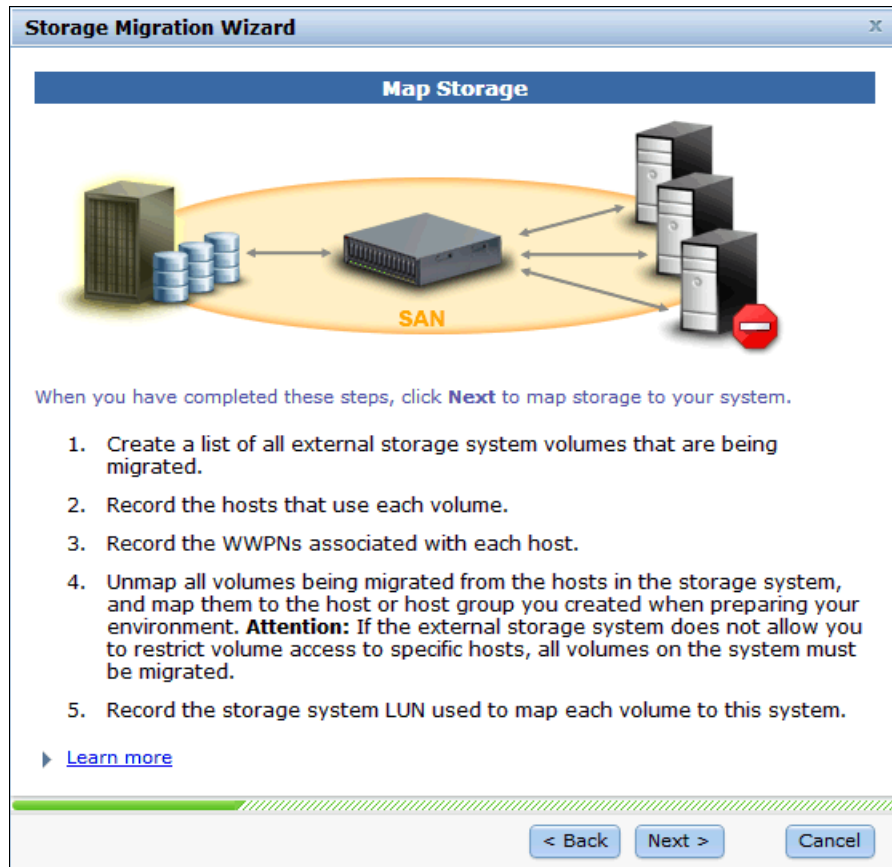

Figure 7-12 Storage Migration Wizard step 3 - Map Storage
- Step 3 of the Storage Migration Wizard is to complete the mapping of external storage LUNS (Figure 7-12). Make sure that you record the information mentioned in this step, as you need it in a later step. Click **Next**.